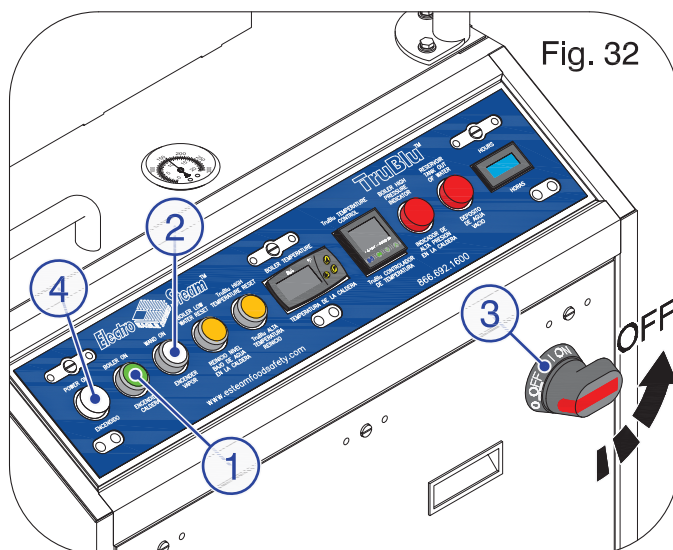
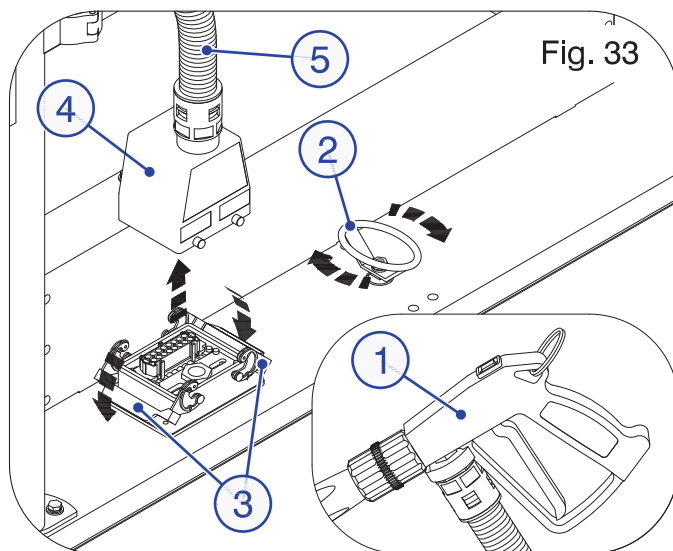

Fig. 32
Fig. 33
- ☞ Release the **GREEN** (Boiler On) Switch (1-Fig. 32) to turn the Boiler **OFF**.
- The **GREEN** (Boiler On) Switch (1-Fig. 32) light will turn off, indicating that the Boiler is no longer on.
- ☞ Release the **WHITE** (Wand On) Switch (2-Fig. 32).
- The **WHITE** (Wand On) Switch (2-Fig. 32) light will turn off, indicating that the Steam Gun (1-Fig. 33) is no longer active.
- ☞ Rotate the Steam Regulator Valve (2-Fig. 33) **CLOCKWISE** to the **CLOSED** position.
- ☞ Turn **OFF** the Steam Generator by rotating the Main Power Switch (3-Fig. 32) **COUNTER CLOCKWISE** to the **OFF** position.
- The **WHITE** (Power On) Light (4-Fig. 32) light will turn off, indicating that there is no longer power to the controls.
- ☞ If desired, it is now safe to detach the Steam Gun (1-Fig. 33) by pushing down the Safety Levers (3-Fig. 33) and pulling up on the Steam Gun Connector (4-Fig. 33).
NOTE: Never pull from the Flexible Steam Hose (5-Fig. 33).
- ☞ With the Steam Gun (1-Fig. 33) detached, place the Cover (1-Fig. 34) on the Steam Gun Terminal (2-Fig. 34) and lock it in place by pulling up the Safety Levers (3-Fig. 34).